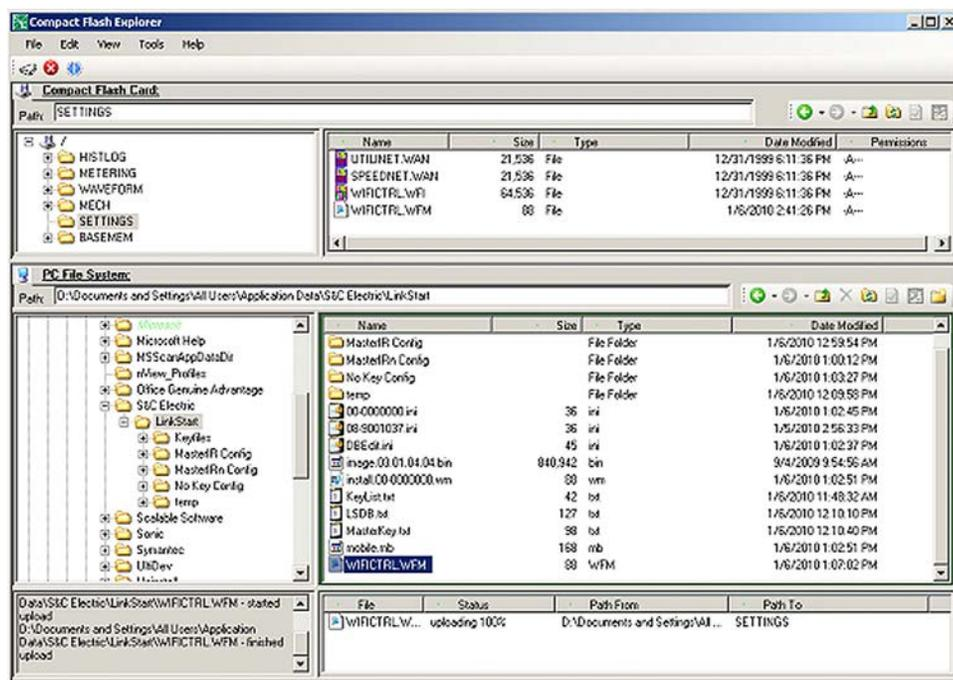

Figure 26. The Compact Flash Card screen.
- STEP 4.** Navigate to the Compact Flash Card Settings folder. See Figure 26.